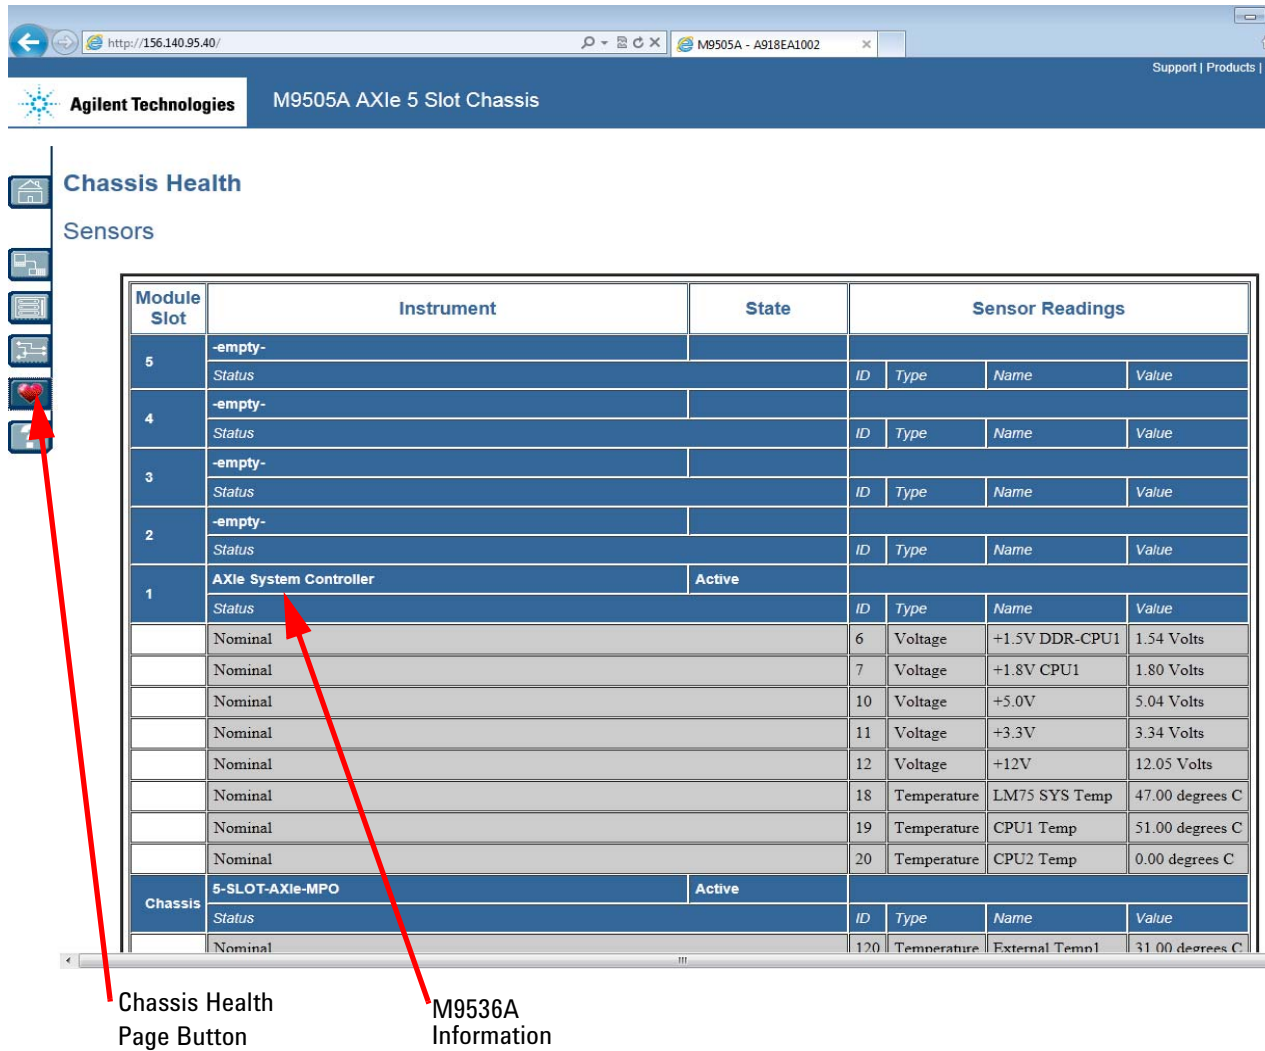

Figure 18 Chassis Health Page
- 2 Click on the **Chassis Health Page** button. This opens the Chassis Health page (Figure 18) that provides backplane rail voltages and operating temperatures in the M9536A Controller.